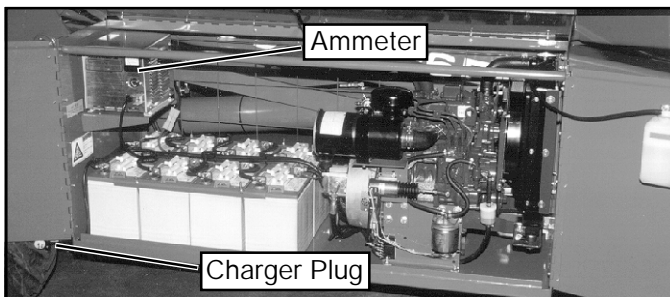

Figure 6: Power Module, Chassis Right Side
3. Connect extension cord (1.5 mm² (12 guage) conductor minimum and 15 m (50 ft.) in length maximum) to charger plug located through cutout at the left side of the chassis (Figure 6). Connect extension cord to properly grounded outlet of proper voltage and frequency.